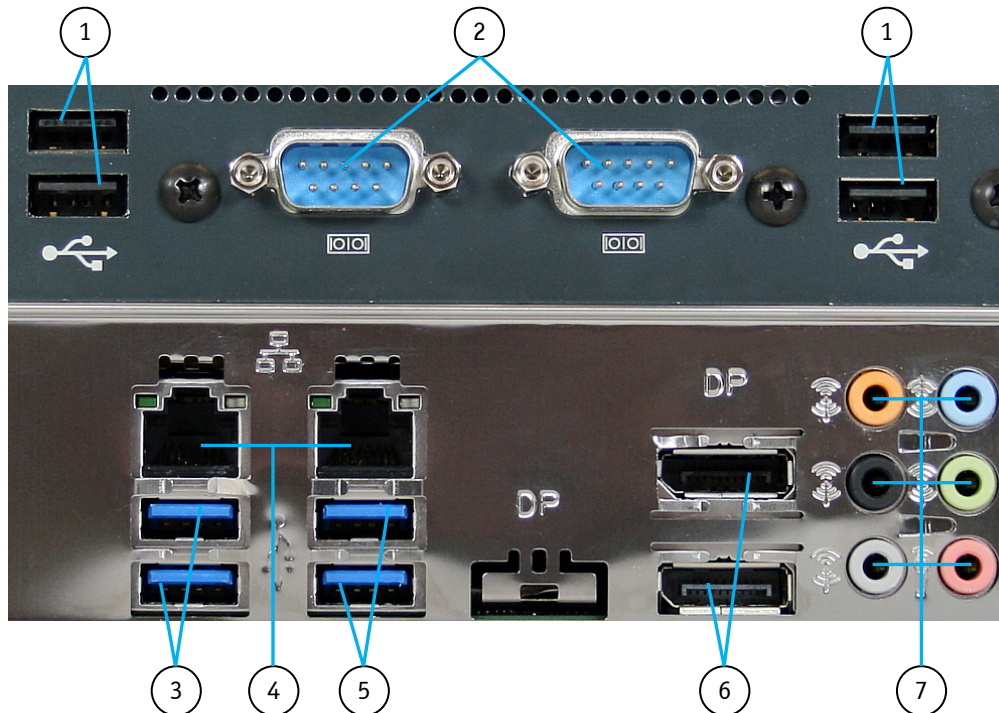

Fig. 11: External interfaces of the integrated motherboard
The system is equipped with six USB 2.0 ports and two USB 3.0 ports (Fig. 11, pos. 1, 3 and 5).
The serial ports COM1 and COM2 (Fig. 11, pos. 2) consist of a 9-pin, RS232-configured D-SUB connectors that allow the connection of serial peripherals.
These ports (Fig. 11, pos. 4) consist of RJ45 connectors with integrated LEDs and support a transfer rate of 10/100/1000Mbps.
Two external (digital) displays can be connected to the DisplayPort connectors (DP0, DP1) (Fig. 11, pos. 6).
Depending on the operating system and the audio software, the six audio connectors (Fig. 11, pos. 7) can be operated as audio input or output jacks (e.g. Line-In, Line-Out, Mic-In, 5.1 surround etc.).